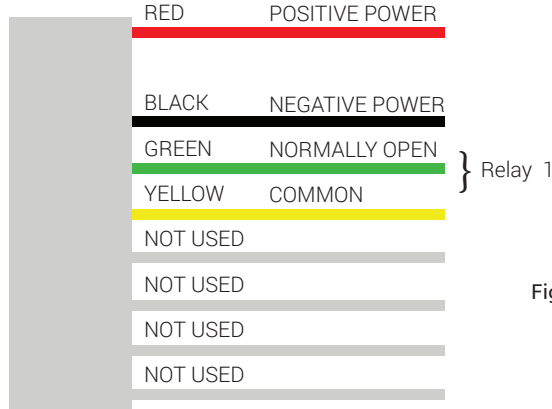

Fig. 4
**Step 4.** Wire the receiver harness according to the wiring diagram (See Fig. 4). For ease of installation the wires are color coded. For most standard gate installations you will wire the open input of your gate operator, with the COMMON and NORMALLY OPEN contact of Relay 1.